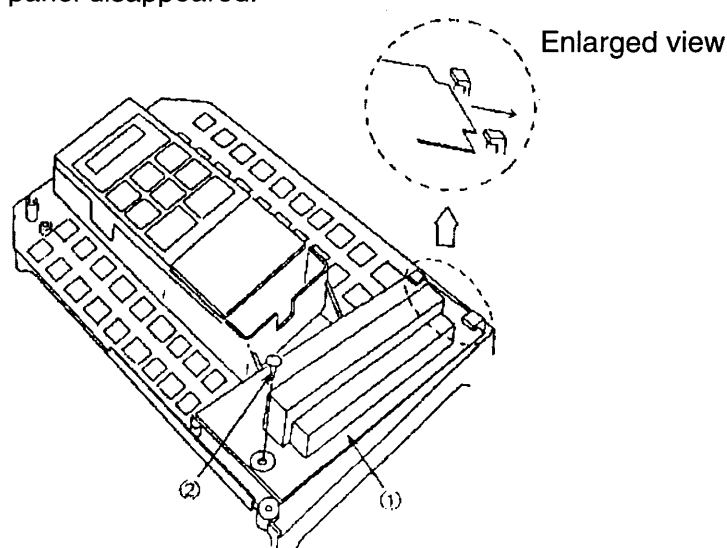

Figure 1-1 Reference drawing for installation
3. Disconnect the flat cable, that is connected to the control board, from the connector CN2A on the standard terminal block board (1).
4. Remove the lock screw (2) and take off the standard terminal block board (1).
5. Fit the new VF5X-4575 board as shown in the enlarged view Figure 1-1.
6. Tighten the screw (2) again and fix the board.